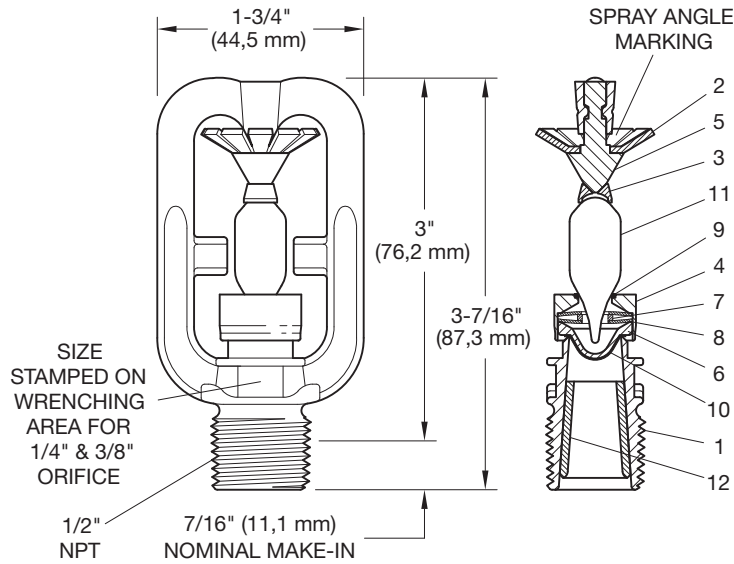

FIGURE 1
Step 2. Tighten the nozzle into the nozzle fitting using only the W-Type 11 Sprinkler Wrench (Figure 3), except that an 8 or 10 inch adjustable crescent wrench is to be used for wax-coated nozzles. With reference to Figure 1, the W-Type 11 Sprinkler Wrench or the adjustable crescent wrench, as applicable, is to be applied to the wrenching area.